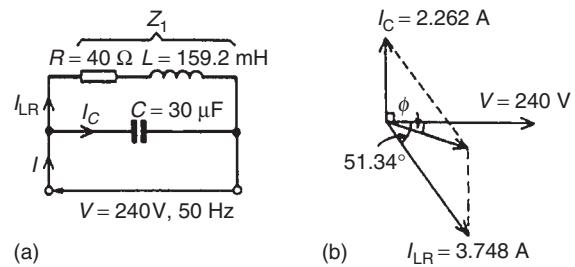

Figure 16.6
The circuit diagram is shown in Fig. 16.6(a).
(see phasor diagram in Fig. 16.6(b))
(see phasor diagram of Fig. 16.6(b)).
- (c) The supply current  $I$  is the phasor sum of  $I_{LR}$  and  $I_C$ . This may be obtained by drawing the phasor diagram to scale and measuring the current  $I$  and its phase angle relative to  $V$ . (Current  $I$  will always be the diagonal of the parallelogram formed as in Fig. 16.6(b)).